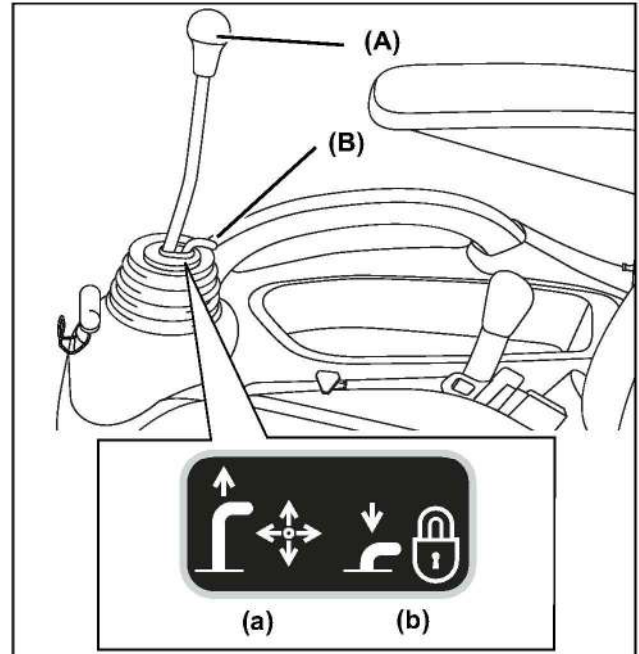

Fig 11-5
1. Use the Implement control lever lock (Fig 11-5, B) to lock the implement control lever (Fig 11-5, A) to the N (neutral) position.
- To confirm that the implement control lever (Fig 11-5, A) has been locked with the implement control lever lock (Fig 11-5, B):